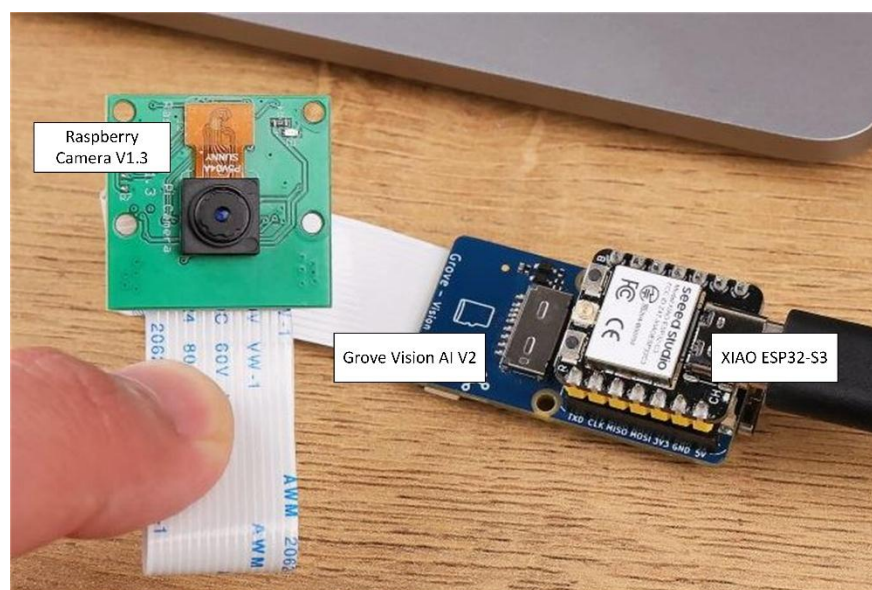

Figure 1. Principal components
1. Attach the **Raspberry Camera V1.3** or **2.0** to the **Vision AI module** (see Figure 1. Principal components)